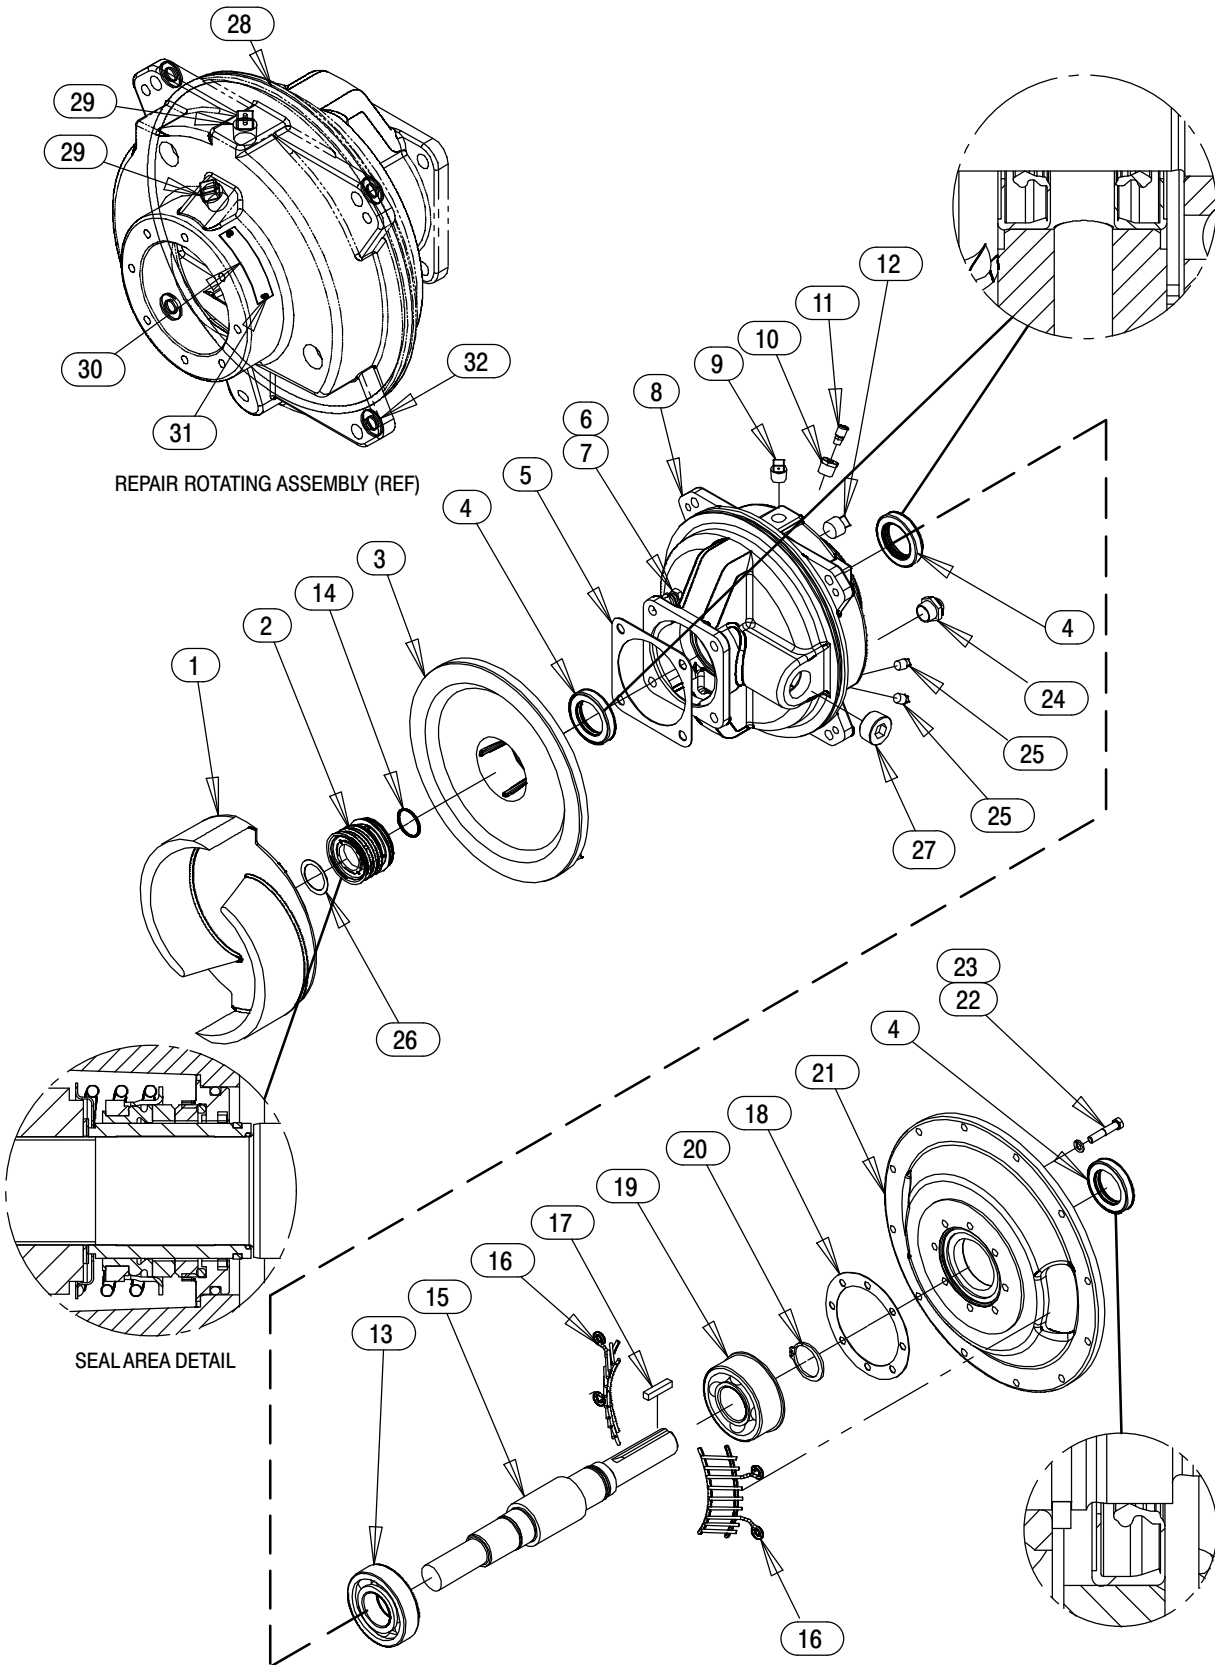

Figure 4. Repair Rotating Assembly
Disengage the hardware (6 and 7) securing the drive flange to the engine bellhousing, and remove the guards (16, Figure 4). Separate the pump end and drive assembly from the engine by pulling the pump end straight away from the engine.
As the assemblies separate, the flexible portion of the coupling assembly (3) will remain on the shaft. To remove the coupling from the shaft, unscrew the two allen head setscrews from the bushing (2). Screw one of the setscrews into the puller hole on the circumference of the bushing. As the coupling and bushing separate, remove the bushing, and slide the coupling off the shaft. Remove the shaft key (17, Figure 4).